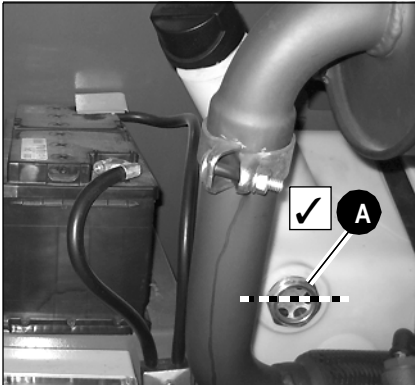

Fig. 171: Oil level sight glass on the hydraulic oil tank
- Check the hydraulic oil level in the oil level sight glass (fig. 171/A)